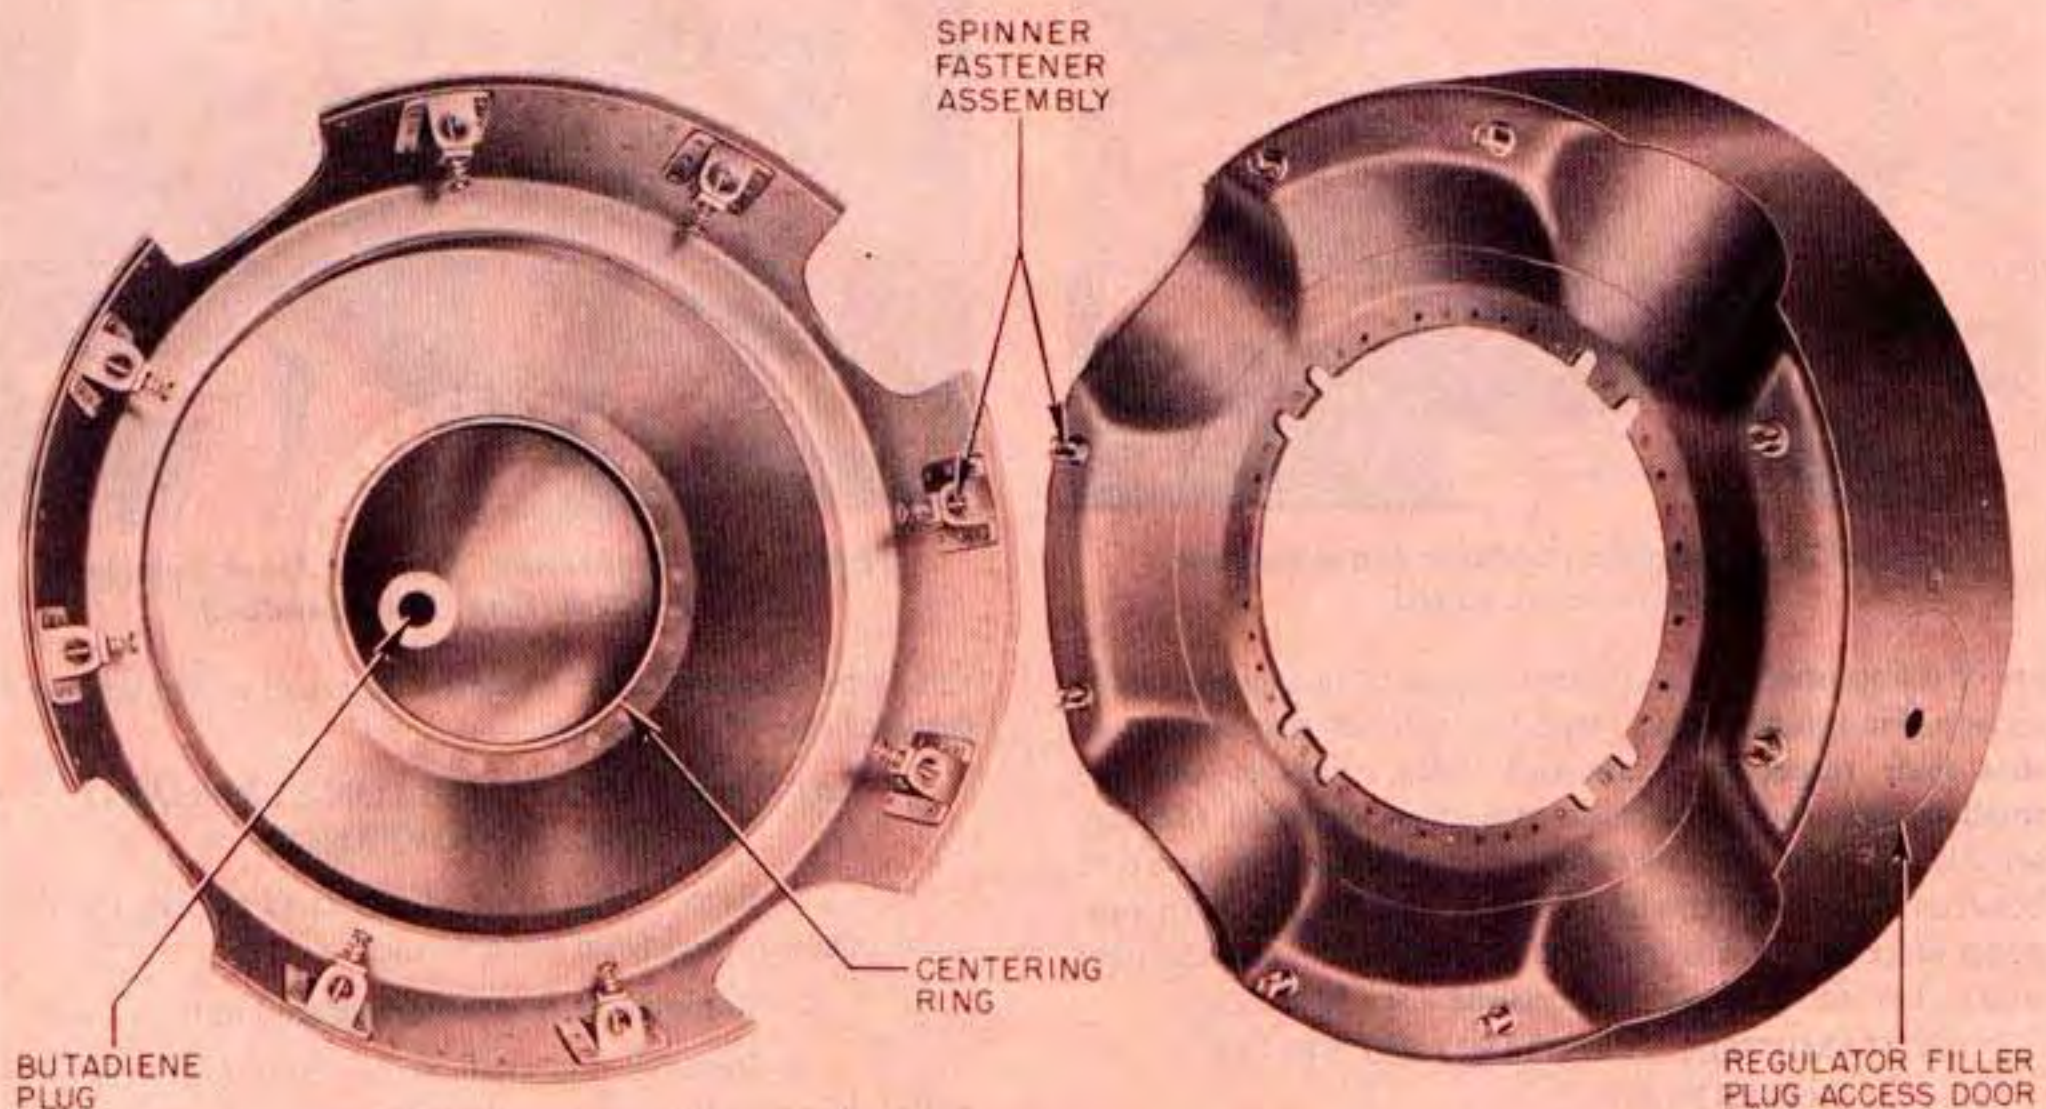
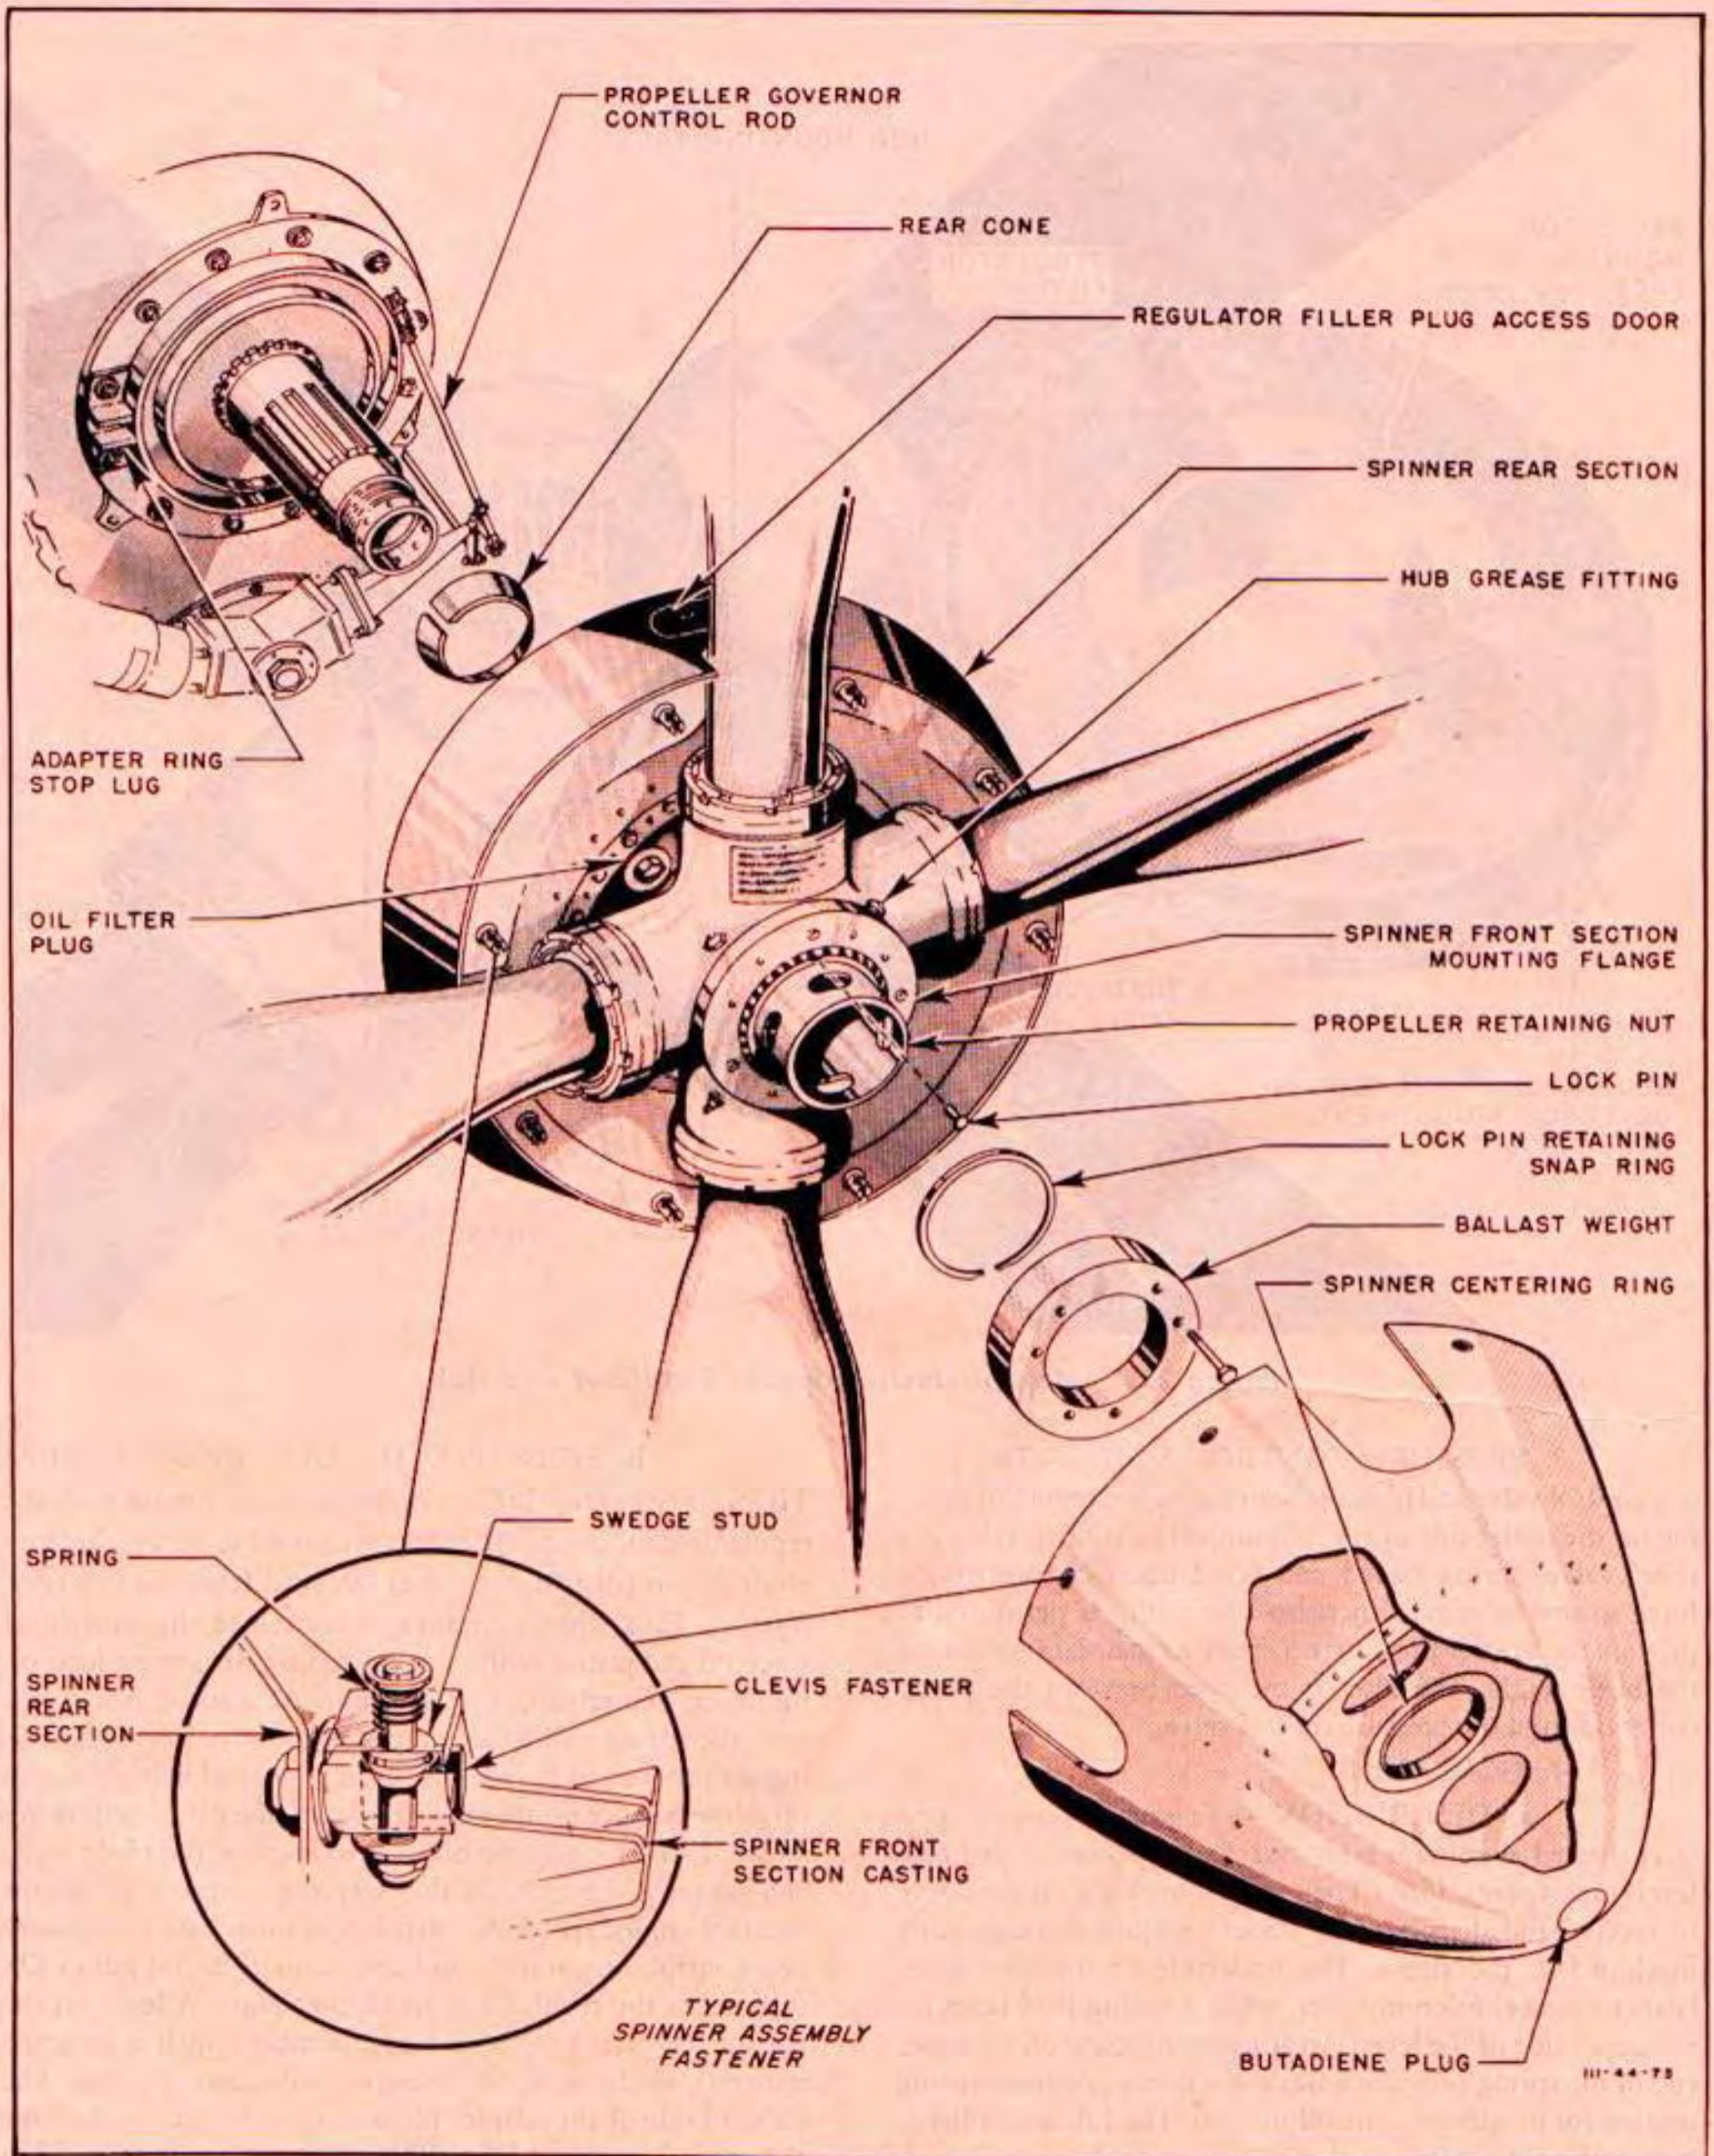

Figure 236A—Aeroproducts Propeller Spinner Assembly
Figure 236B—Propeller Installation (Aeroproducts)
(1) DESCRIPTION.—The 4-blade Aeroproducts constant-speed propeller (A-542-A1) is 11 feet in diameter and has a rate-of-pitch change of approximately 6 degrees per second. The blades (A-20-156-24M) are set at a 28.8-degree angle in low pitch and 58.8-degree angle in high pitch. (See figure 236B.) A streamlined fairing spinner, consisting of two dynamically balanced sections, is installed around the propeller hub. (See figure 236A.) The spinner rear section is secured to the forward side of the regulator by the regulator